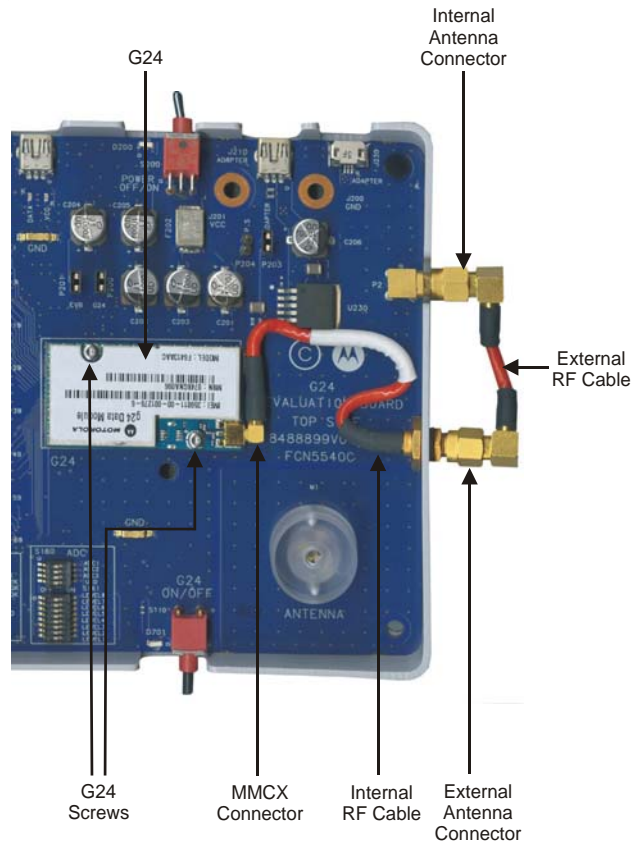

Figure 2-2: Connecting the G24
1. Place the G24-L (Figure 2-2) on the Developer Board area, marked by a white rectangle, and push the G24-L 70-pin connector down into the G24-L 70-pin connector on the Developer Board.
3. Connect the internal RF cable MMCX connector to the MMCX connector of the G24-L by pushing it in until it clicks (Figure 2-2).
5. Connect the external RF cable between the External Antenna Connector and the Internal Antenna Connector (Figure 2-2).
*The Developer's Kit arrives configured to operate with its on-board internal antenna. The **EXT ANT** and **INT ANT** connectors are connected together using an external RF cable, on the board's right side (Figure 2-2, on page 8).*